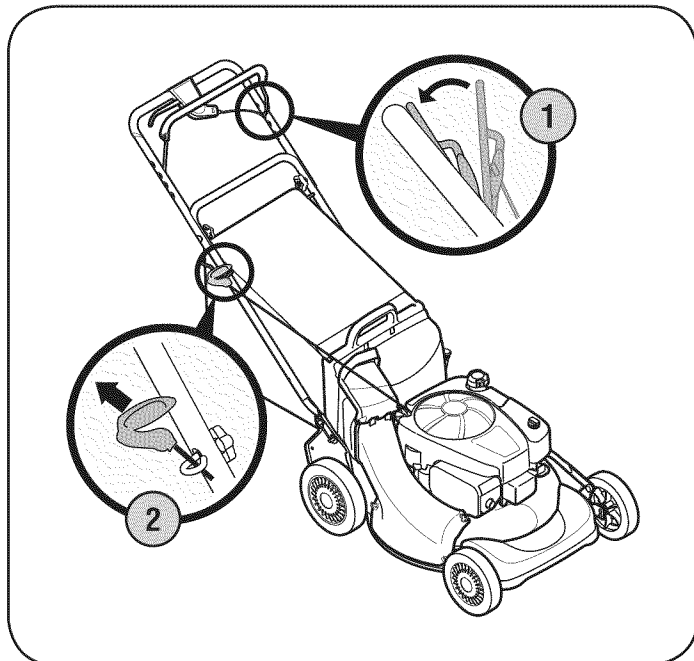

Figure 11
1. Standing behind the mower, squeeze the blade control handle against upper handle. See Figure 11.
2. Holding these two handles together firmly, grasp recoil starter handle and pull rope slowly until resistance is felt, then pull with a rapid, continuous, full arm stroke. See Figure 11. Keeping a firm grip on the starter handle, let the rope rewind slowly. Repeat until engine cranks. Let the rope rewind each time slowly.